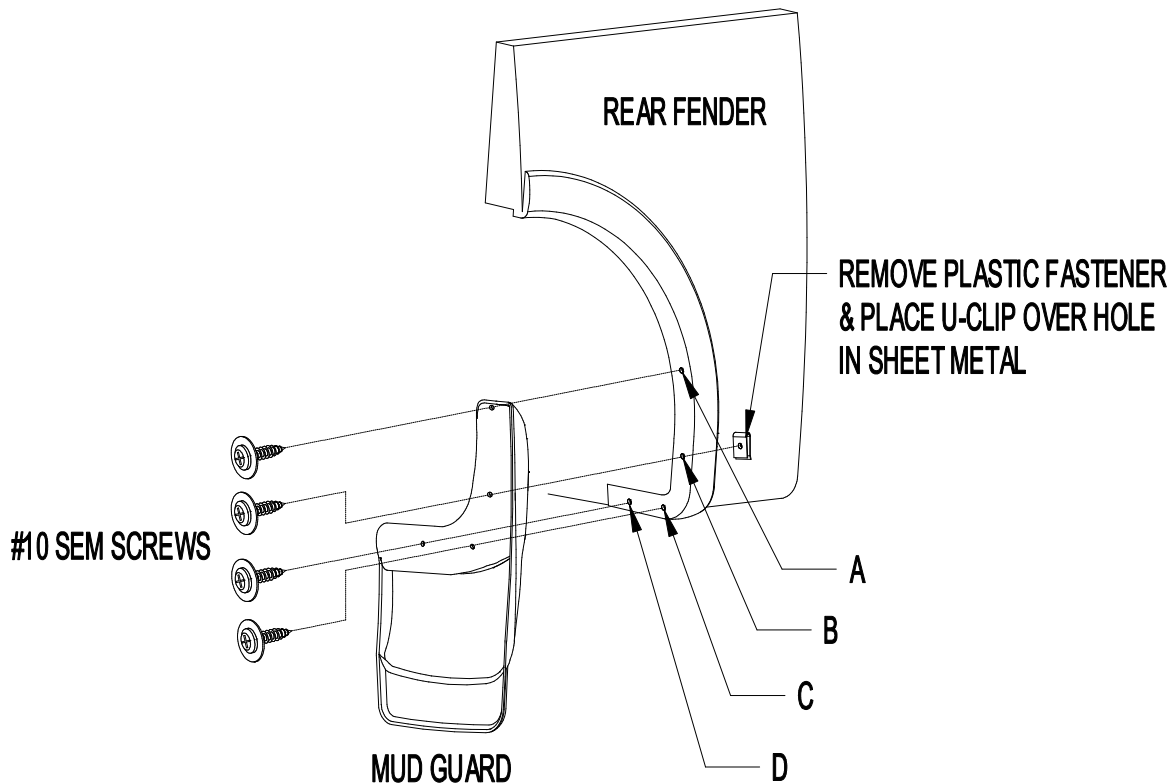

Figure 1
2. Remove factory fastener from locations B and place a U-clip over sheet metal and align fastener holes (Figure 1).
4. Using the mud guard as a template, center punch and drill an 1/8" hole at location A, C, and D (Figure 1).